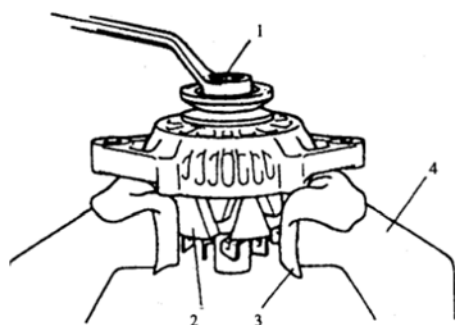

Figure 6.1-8
(4) Loosen the pulley nuts with a vice and disassemble the pulley. See Figure 6.1-8.